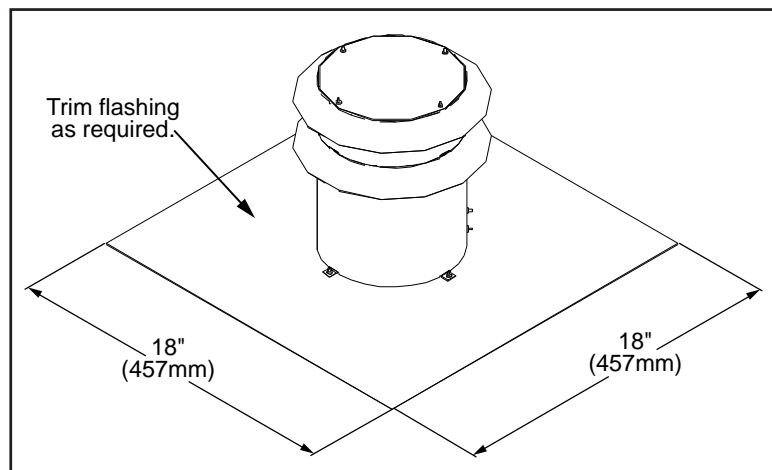

Figure 36: Vertical Vent Cap Dimensions.
4. The Vertical Vent Cap can be installed onto chimneys with flue openings up to 16" (406mm) x 16" (406mm) and the actual flashing is 18"x18" (refer to Figure 36). If the chimney is smaller the cap should be trimmed down and folded over.
5. Apply a bead of Mill-Pac Black sealant to the top section of the $\text{Ø}3$ " (76mm) vent collar plate. Slide the $\text{Ø}3$ " (76mm) flex vent over the flue collar and secure with three (3) sheet metal screws evenly spaced.